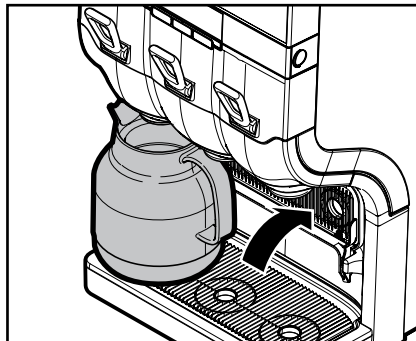

Fig. 12
- Tilt the cup tray upwards to provide enough room for a pot (fig. 12).
- Place the pot on the drip tray (fig. 12).